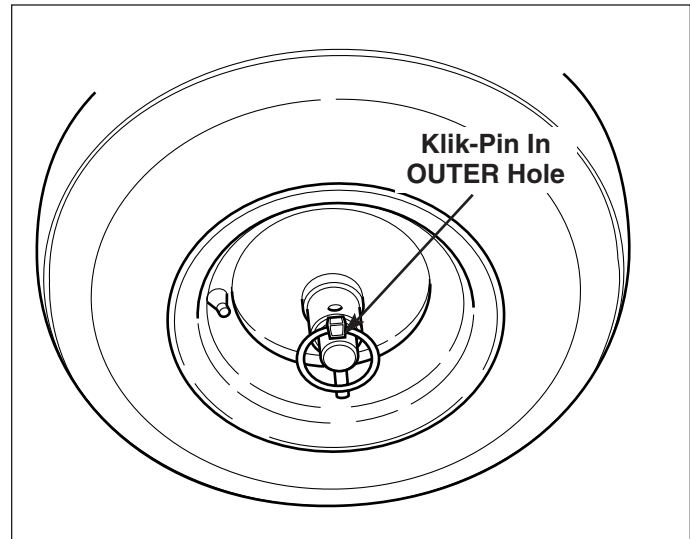

Figure 11. Traction Drive Lock - Disengaged
For easy turning when pushing the snowthrower, you can disengage the traction drive at one or both wheels by using the Traction Lock Pins (See Figures 11 & 12).
2. To **DISENGAGE** the traction drive lock, insert the Traction Lock Pin through the outer hole in the axle. (See Figure 11).